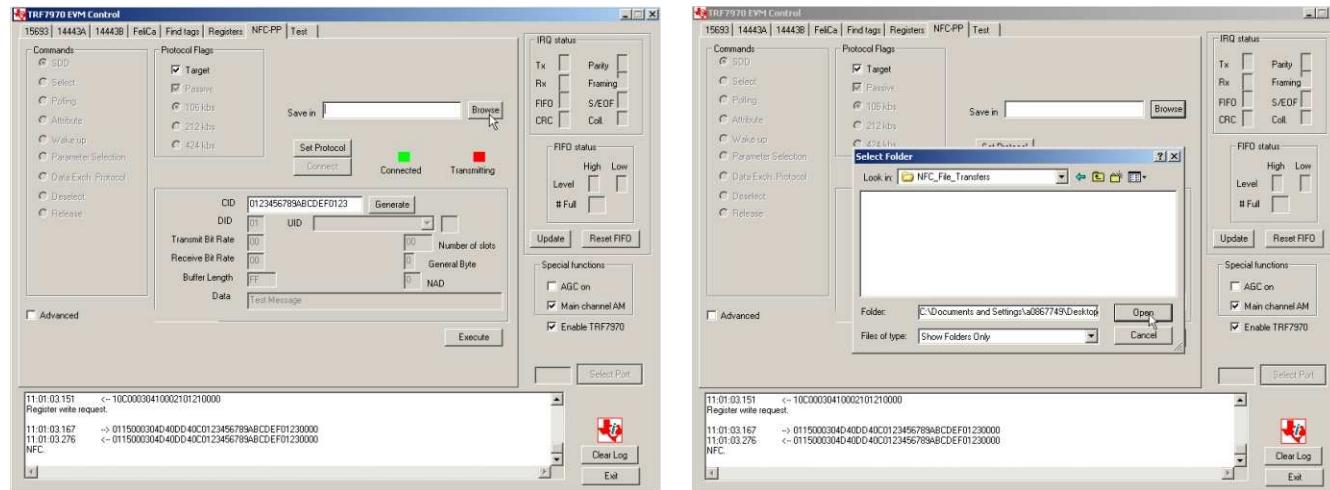

Figure 36. NFC File Transfer, Save File on Target
4. Click Open (see Figure 36).